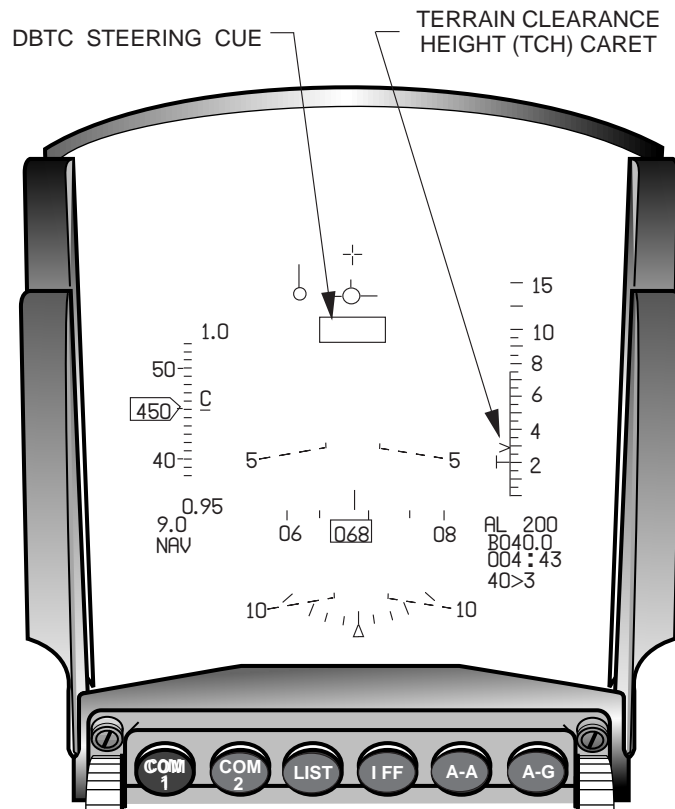

Figure 2-40 DBTC Indications on the HUD
Database Terrain Cueing (DBTC). The DBTC function provides the pilot with a manual vertical steering cue in the HUD to help maintain specified AGL altitudes during low altitude flying operations. The steering cue (Figure 2-40) is a rectangle similar to the LANTIRN Terrain Following (TF) box in the Block 40 aircraft. Working off of TRN's estimated aircraft position, the DBTC's algorithms scan the DFM ahead of the aircraft to generate the vertical steering commands necessary to clear the terrain and obstacles at or near a pilot selectable Terrain Clearance Height (TCH). The DBTC scan area is equivalent to the PGCAS scan area shown
The HUD DBTC indications (Figure 2-40) include a vertical steering cue, a TCH depiction, and a Low Terrain Clearance (LO TC) warning message. Vertical steering for terrain and obstacle clearance is provided by a 10mr by 30mr box (DBTC Cue) which appears in the approximate center of the HUD FOV. Centering the FPM inside the DBTC Cue will provide the flight path necessary to maintain the pre-selected TCH over the terrain. The DBTC Cue is programmed to require the pilot to pull a maximum of -0.9 g to +2.0 g to maintain the FPM in the DBTC Cue. An altitude caret on the left edge of the HUD altitude scale indicates the selected TCH altitude. The low terrain clearance warning is displayed as a “LO TC” message in the center of the HUD when the aircraft radar altitude is below 75 percent of the TCH.